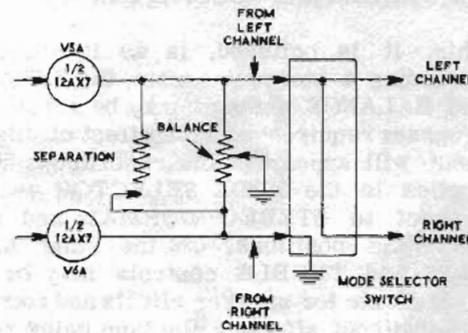

Figure 2C
**MONO LEFT** position: See Figure 2C. In this position any input to the Left Channel may be fed simultaneously to both the Left and Right Channel outputs.